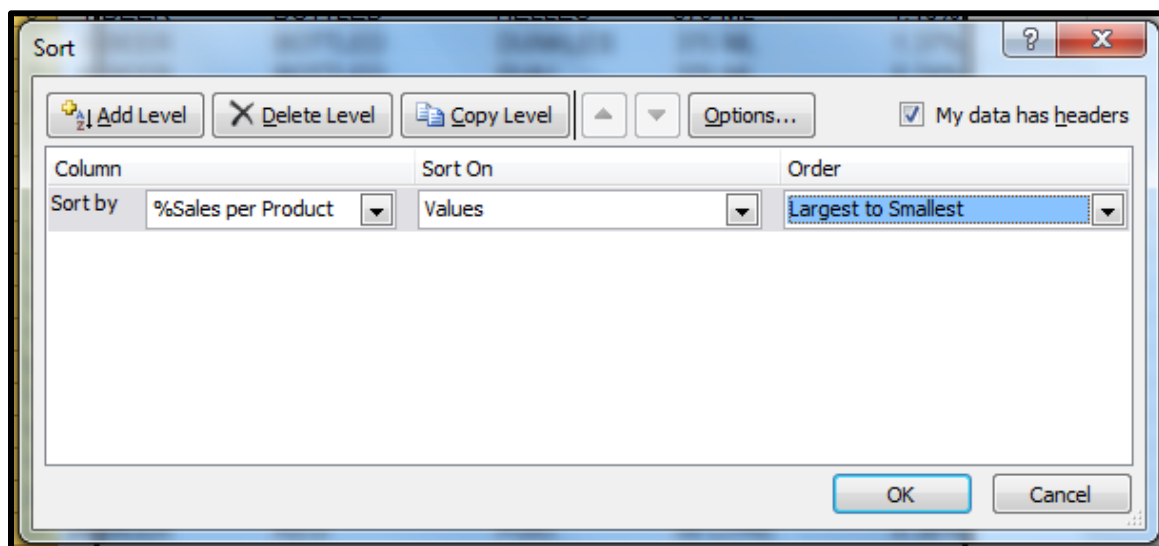

Figure 6 - Sort Dialogue Box
- On the **Data** tab click on **Sort** to bring up the Sort dialogue box – (see Figure 6 below), make sure the **My data has headers** box is checked, for **Sort by** select **%Sales per Product**, for **Order** select **Largest to Smallest**, and click **OK**